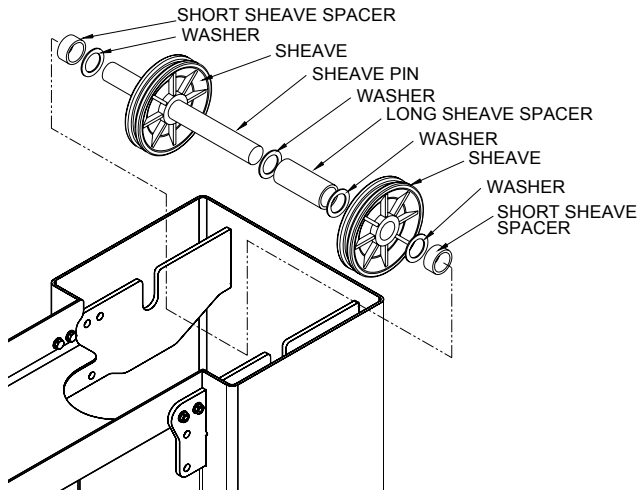

Fig 5 – Sheave Assembly
- 15) Assemble the sheaves and spacers onto the sheave pin as shown in **Fig 5**. Set in cradle with all assembly parts between the two plates.